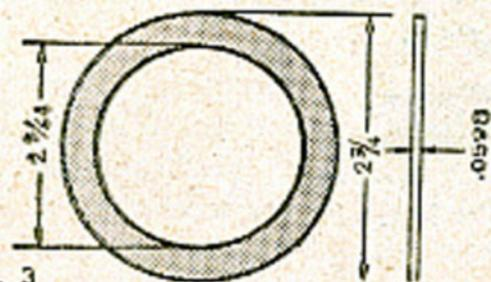

Fig. 3
ground down to the diameter shown or (3) follow the dimensions in Fig. 3, and make the washer from scratch.
See Fig. 3 for a quick field fix for a broken or lost spring pin.
Fig. 3—Here's a quick field fix for a lost or busted spring bolt. If you don't have a bolt and nut, use a punch or a chisel of similar size. Jack up the vehicle to take the weight off the spring and line up the hole in the spring with the hole in the hanger. Install punch, or chisel, let the jack down, and wrap wire around to hold the new pin in place.